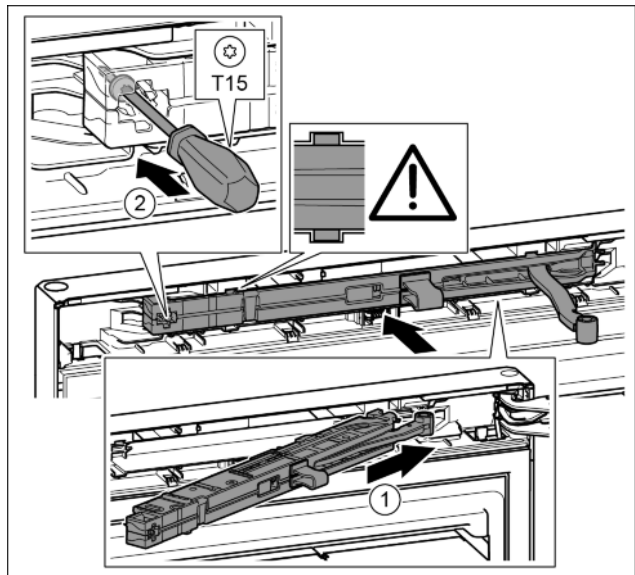

Fig. 20
- ▶ Slide the soft stop mechanism on the bearing bracket side at an angle into the slot as far as the limit stop. Fig. 20 (1)
- ▶ Tighten the screw with the T15 screwdriver. Fig. 20 (2)